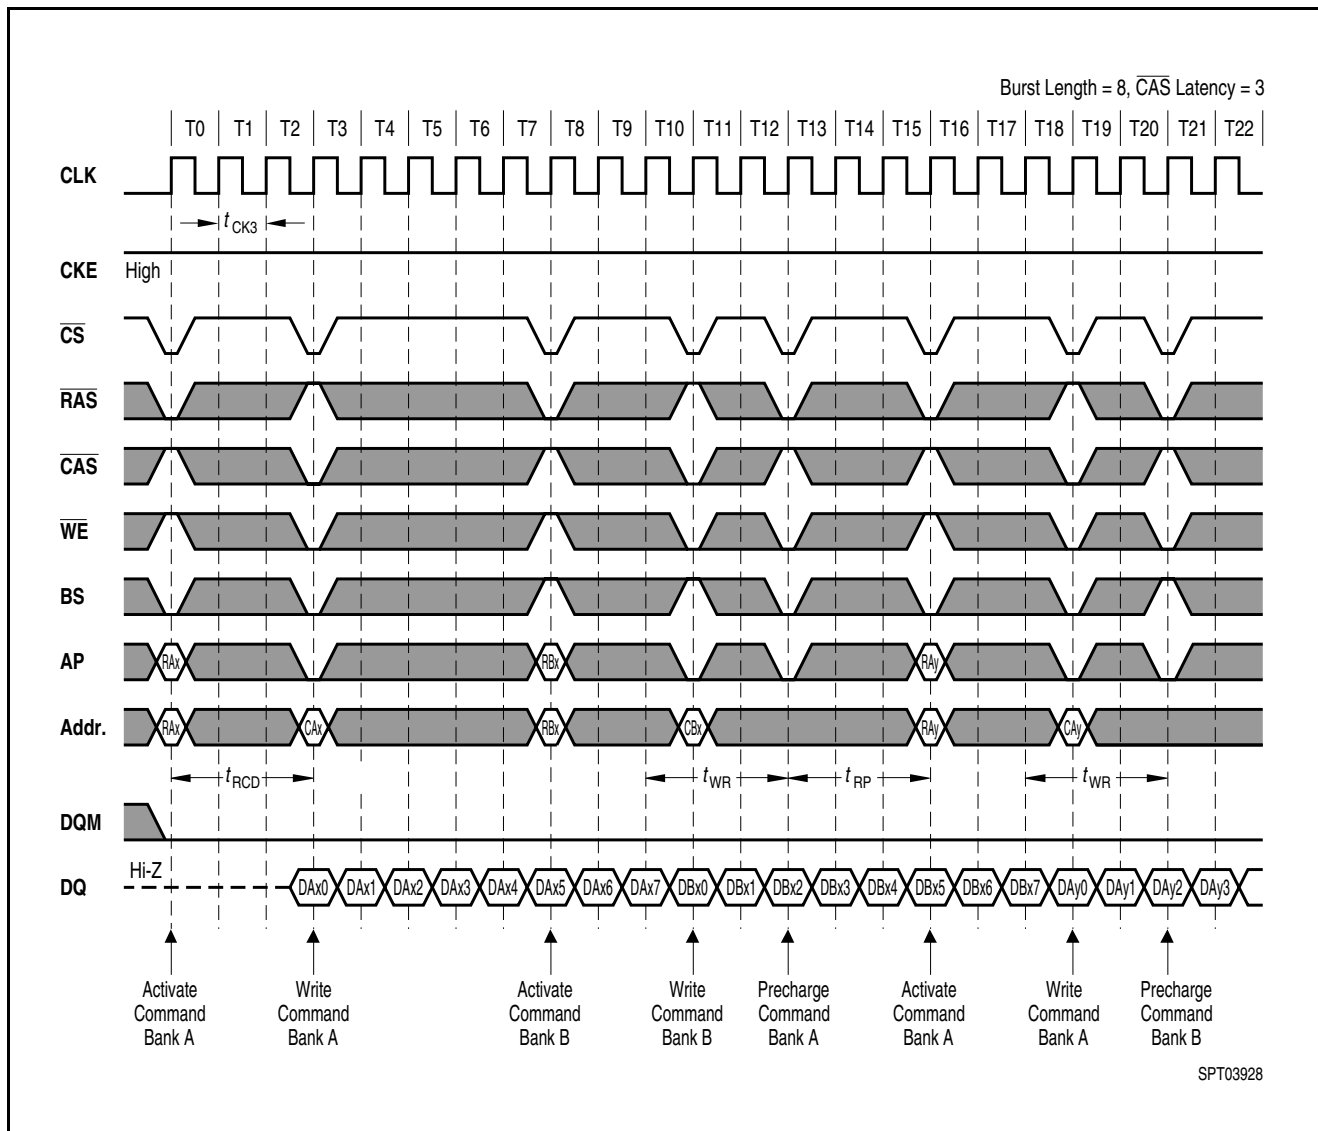

Figure 34 CAS Latency = 3
- **Figure 34** CAS Latency = 3